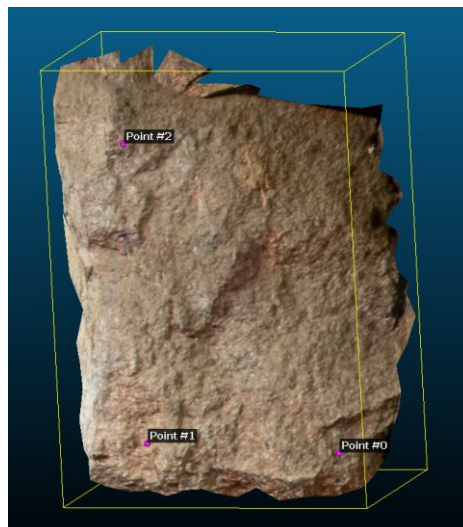

Figure 3 - Grid data points for levelization of segmented joint surface
4. The second step is **levelization of the surface**. First, we need three grid points in a right-angle format on the segmented joint surface as shown in Figure 3.
Uncheck the mesh file and check the point cloud file as this will be the one you are leveling. With the point cloud checked, click on point 0 and then point 1 and point 2 finally. Try to click exactly on the grid points shown above in Figure 3. (Try to rotate the point cloud, so that you can view it as in Figure 3).